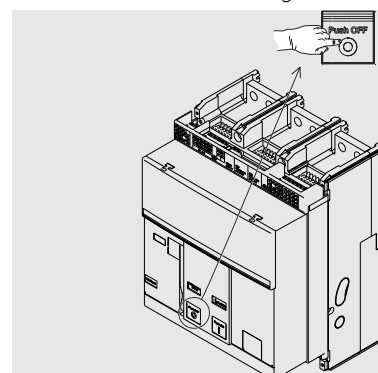

Figure 47
6. Opening - Press the opening pushbutton "O - Push OFF" as indicated in Figure 47.